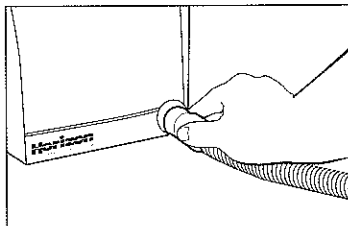

Figure 4
- Connect the 22 mm diameter tubing to the outlet port on the front of the unit **Figure 4**. This is the port from which CPAP air supply is provided. Connect the opposite end of the 22 mm tubing to the mask and headgear assembly.